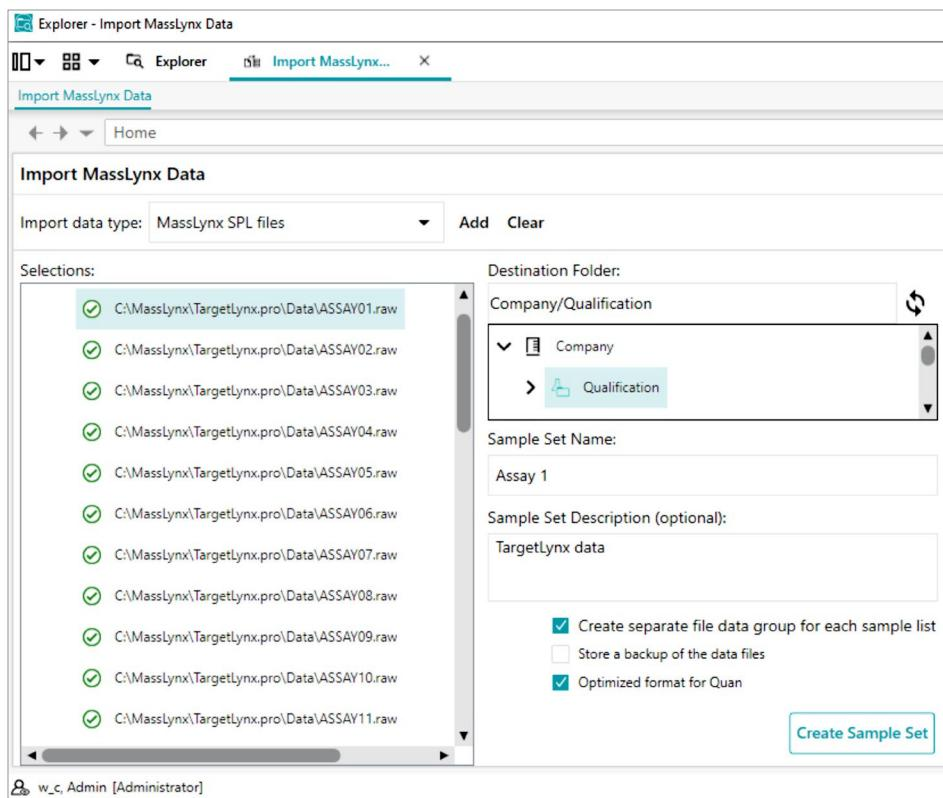

Figure 1. Selection of MassLynx Sample List (SPL) in Explorer for data (RAW) import.
- Import MassLynx Tandem Quad MRM data in Explorer (Figure 1).
- Import the complete batch including MassLynx Sample List (SPL) and RAW data files using Explorer (Figure 1).